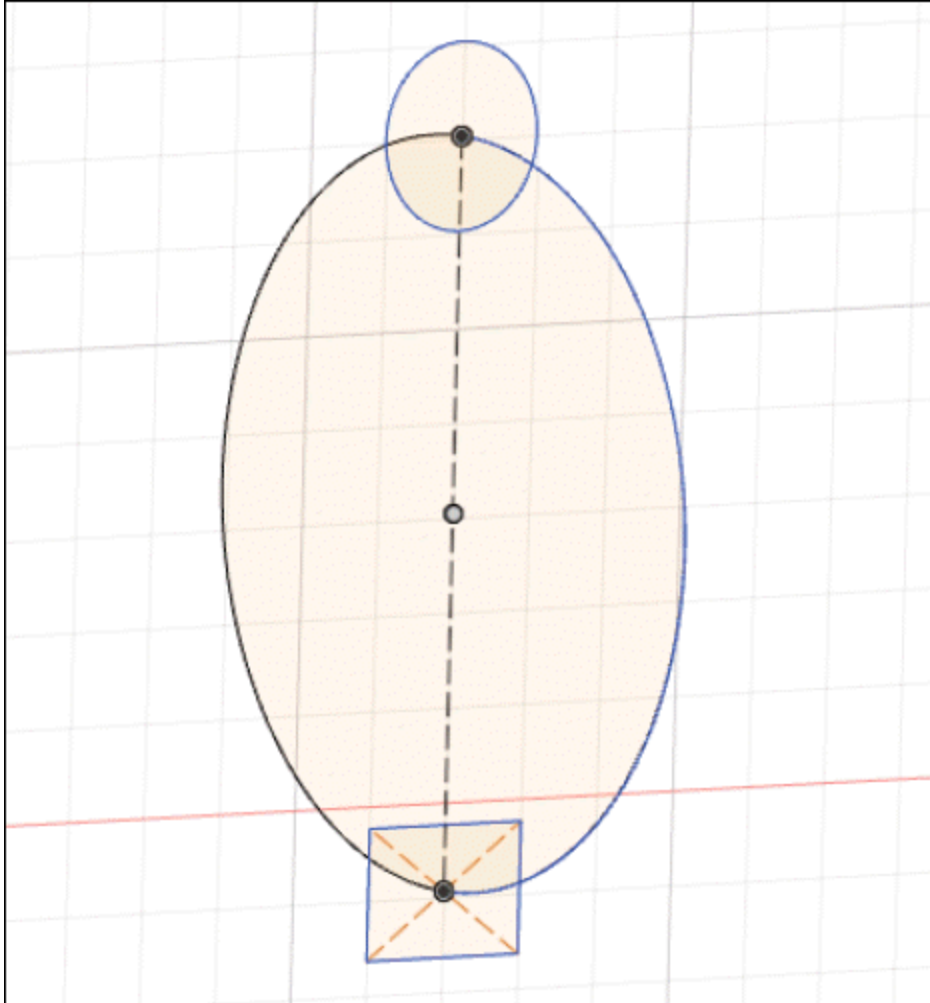

Figure-15. Sketch of ring
- To use the **Centerline** guide type, we have created a sketch of ring like structure with the help of circle and rectangle on different planes; refer to Figure-15.